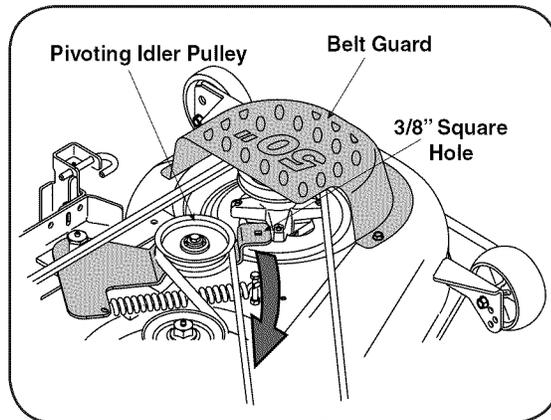

Figure 6-6
3. To ease in removing the belt in later steps, loosen, but do not remove, the bolt which secures the pivoting idler pulley to the idler bracket. See Fig. 6-6.
4. Insert a 3/8"-drive ratchet wrench (set to tighten) into the square hole found in the idler bracket on the left side of the deck's surface. See Fig. 6-6.